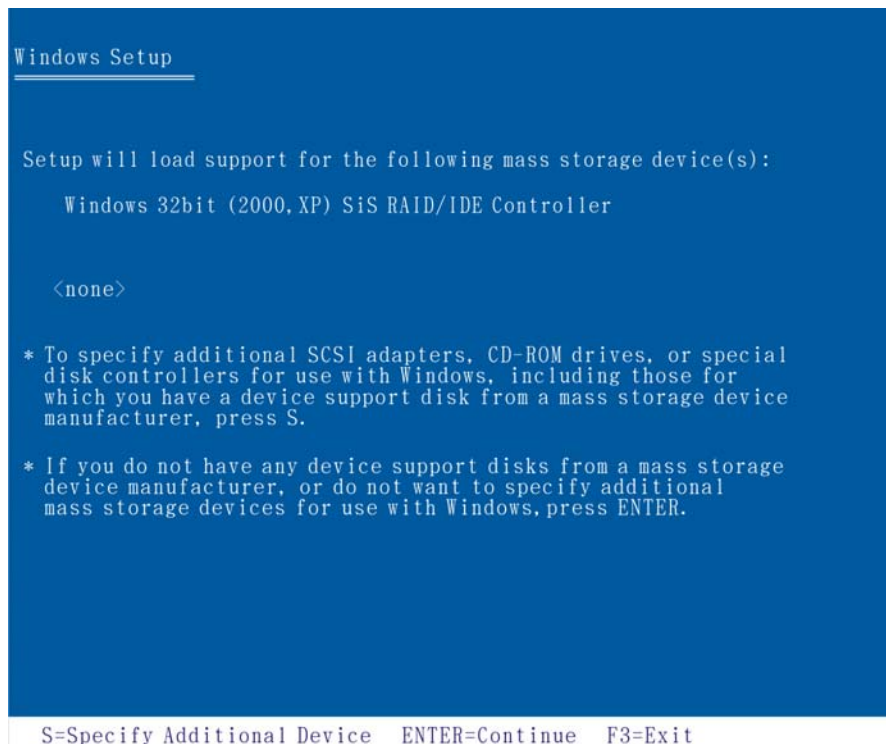

Figure 8-14: Windows Setup Screen
- Step 9:** The Windows Setup screen in **Figure 8-14** appears. Note that the driver is specified at the top of the screen in **Figure 8-14**.